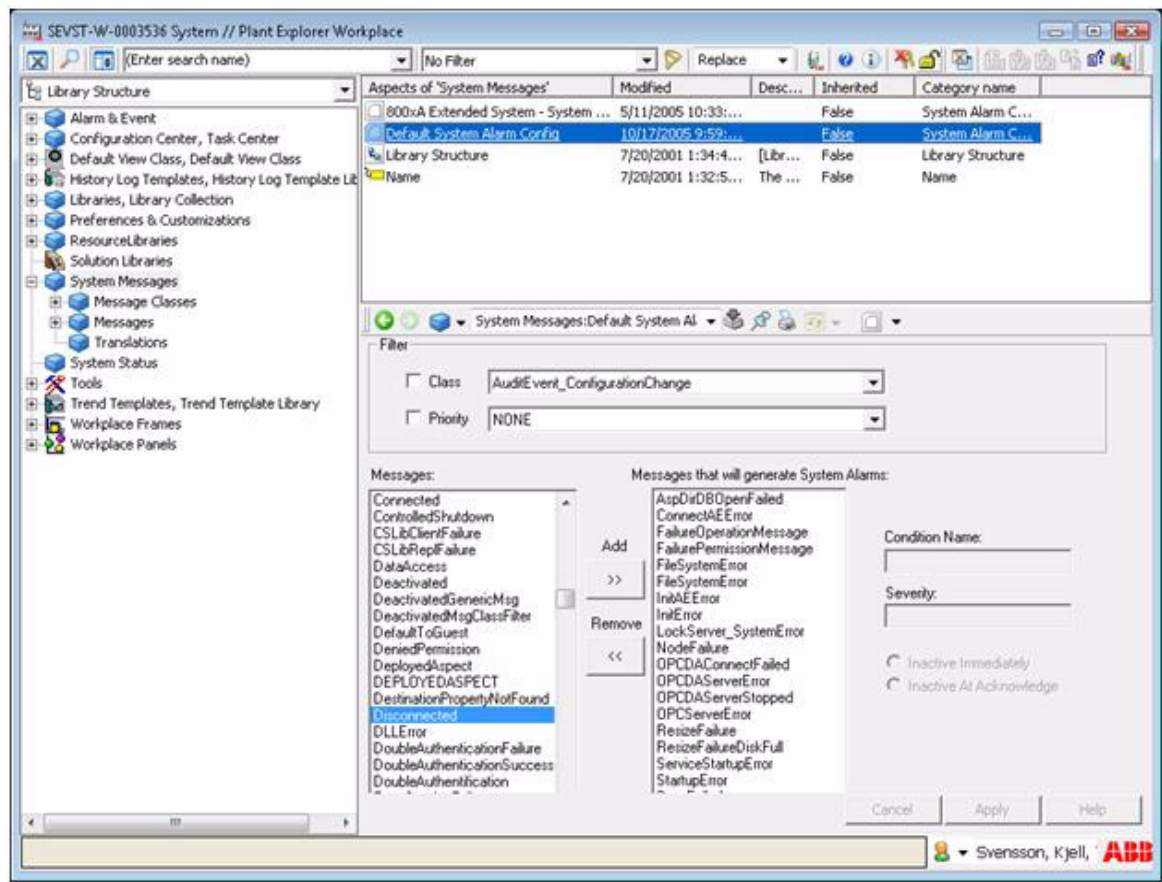

Figure 62. System Alarm
- 1. In the Library Structure, select System Messages object, see Figure 62.
6. Click Apply, see Figure 62.